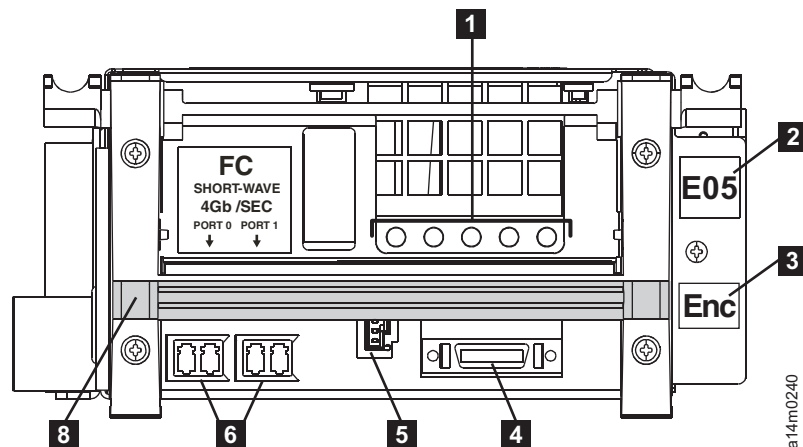
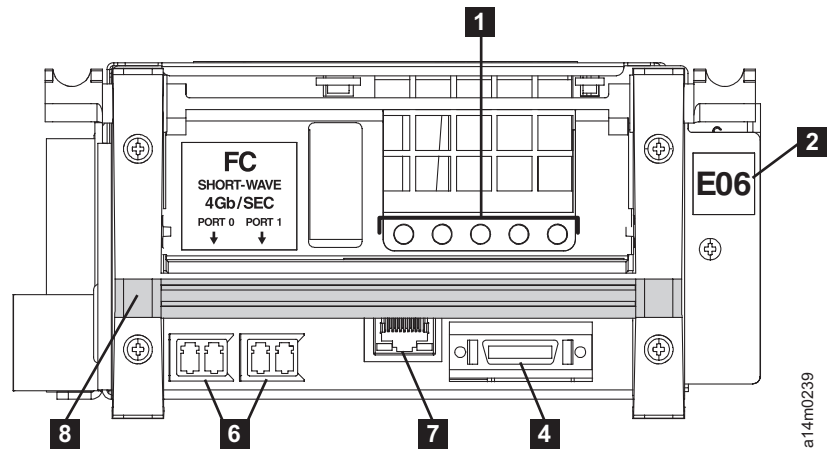
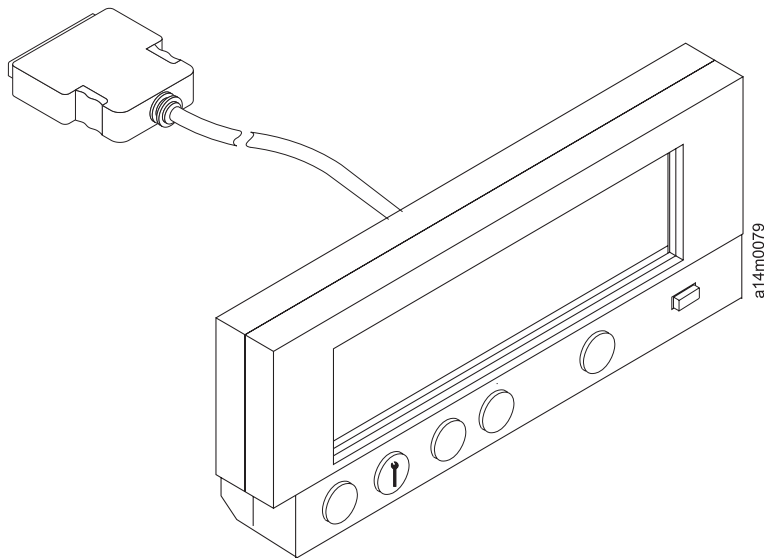

Figure 18. 3592 models E05 and J1A drive rear panel components
Figure 19. 3592 model E06 drive rear panel components
Figure 21. Service panel (To be used by qualified IBM service personnel only.)
The rear panel of the 3592 drive is the same on Model E06, EU6, E05 and J1A drives except for the model marking **2** on the right, the RS-232 Serial Port **5** on the Model E05, EU6, and J1A (see Figure 18), and the Ethernet port **7** on the Model E06 (Figure 19 on page 60). An Encryption Capable label **3** appears on some Model E05 drives.
2. Check the Fibre Channel connections. Verify that the fibre cables are properly connected to the two pairs of ports at the rear of the drive canister (see **4** in Figure 18 on page 59 and Figure 19 on page 60).
In addition, qualified IBM service representatives can attach the cable of a service panel (see Figure 21) to a connector on the rear of the drive (see **2** in Figure 18 on page 59 and Figure 19 on page 60) to perform additional functions.